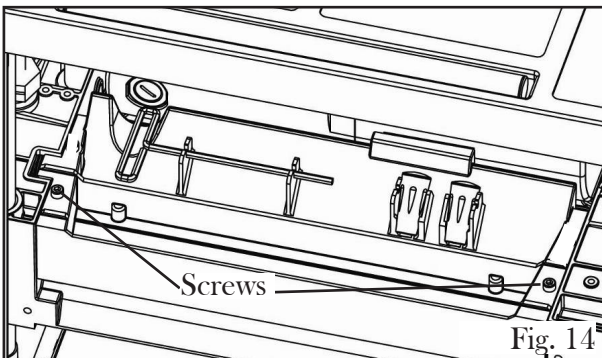

Fig. 14
2. Loosen and remove the two hex screws from the blade guard on the rear side of the cutterhead. Remove the blade guard (Fig. 14)